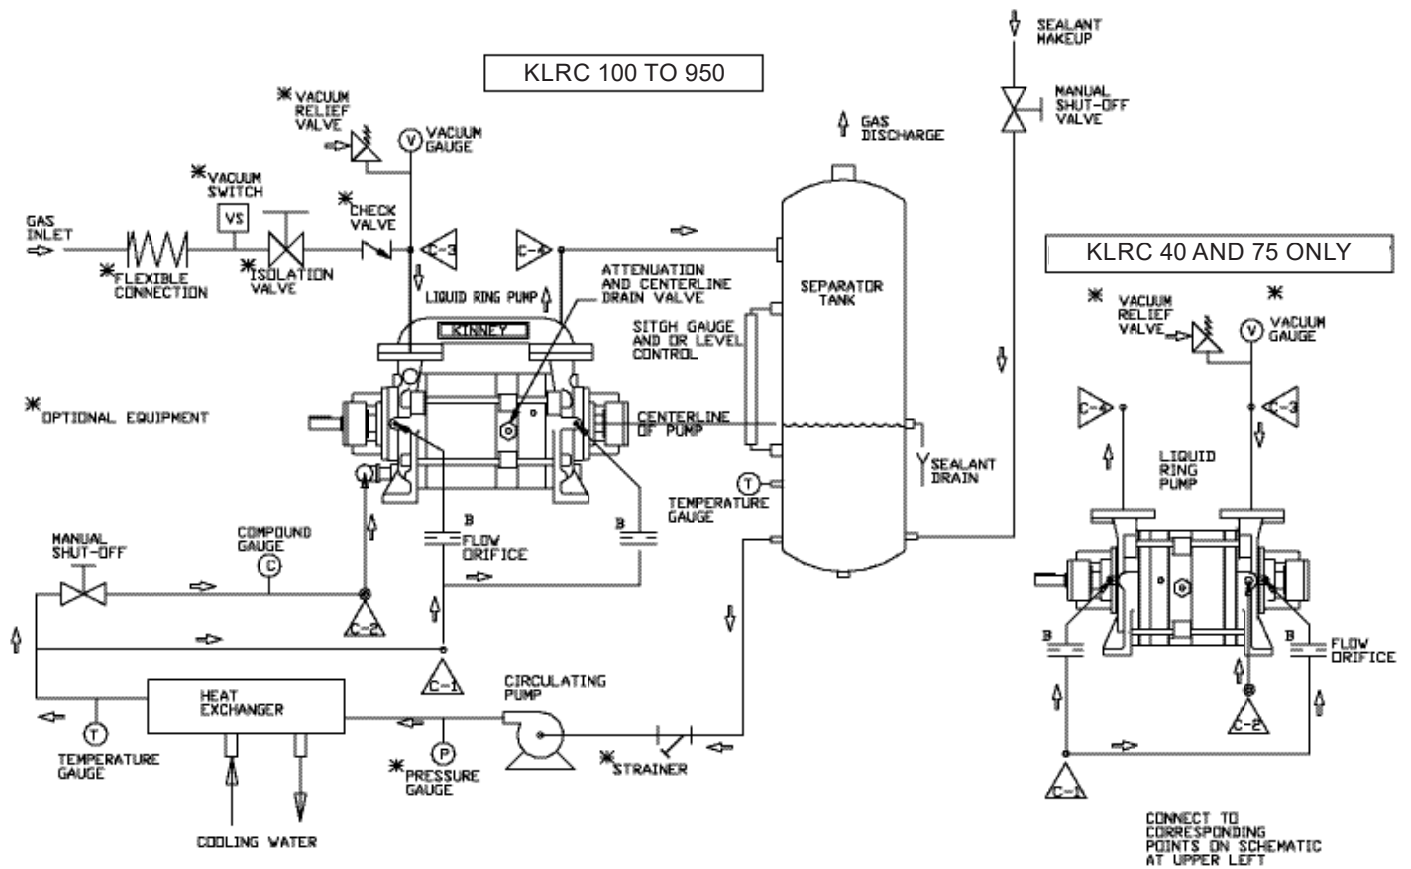

Figure 4. Piping Schematic Full Sealant Recovery System with Circulating Pump
- Full Recovery with Circulating Pump (Fig. 4)
A full sealant recovery system is a closed loop sealing configuration that employs a heat exchanger, (water or air-cooled) to maintain proper sealing fluid temperature. See Figure 4 for piping arrangement. This arrangement is not suitable for prolonged operation at pressure above 400 Torr unless a circulating pump is installed.